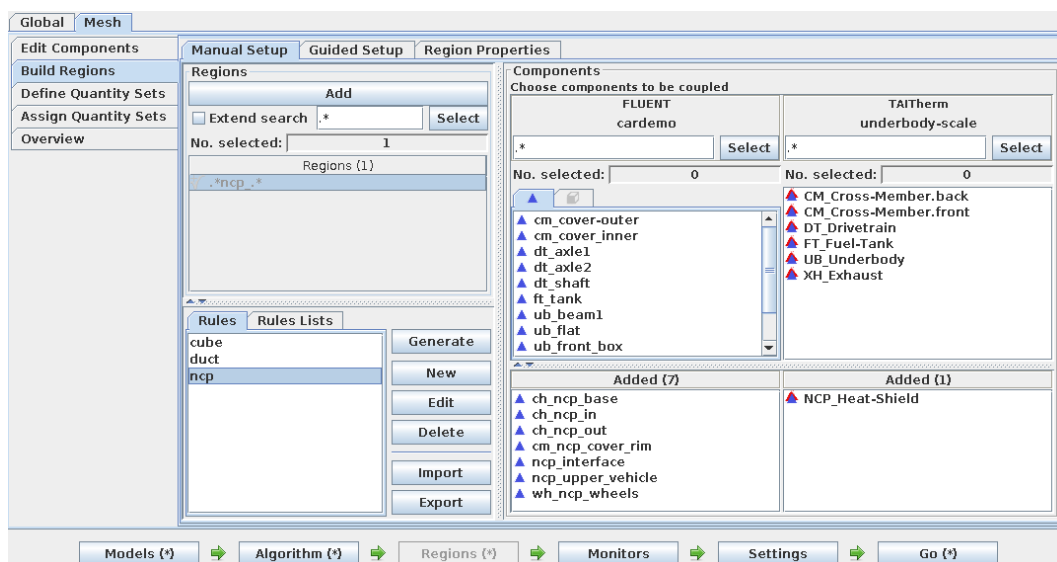

Figure 5: Manual setup for components not to be coupled
The regions are created in the regions step of the MpCCI GUI (cf. Figure 5).
- A click on the button `OK` saves the rule and closes the dialog. The new rule is now displayed in the list of rules (see Figure 5).
Select the rule `ncp` and click on `Generate` to apply the rule to the components currently listed. The unused region `*.ncp_*` is created (cf. Figure 5). If components of other dimensions exist - here `FLUENT` has a component in the volume dimension - add a new region, select the other component dimension and repeat this generation procedure.